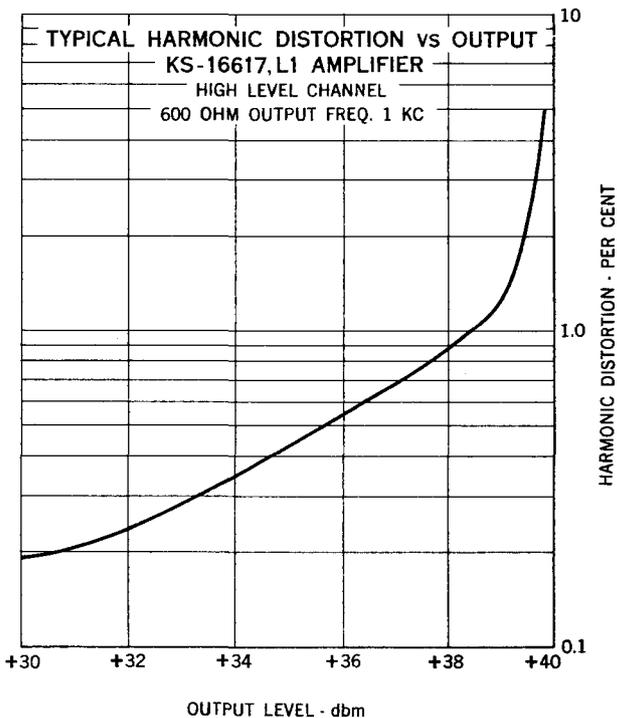

Fig. 6 - High-Level Channel — Output vs. Distortion
6.04 Fig. 6 shows the harmonic distortion versus output level for the high-level channel.